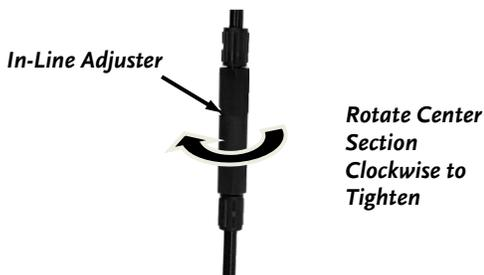

Figure 27
1. Locate the Inline Adjusters along the right and left Handlebar (**Figure 27**).
If the Vertical rotation seems to be lessening, tighten Inline Adjuster as described above (**Figure 27**).
If the Traction Drive is slipping excessively, tighten Inline Adjuster as described above (**Figure 27**).